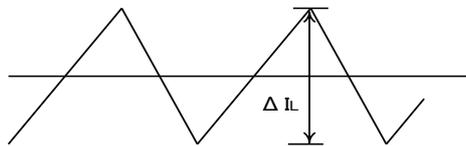

Figure 24. Ripple Current
(1) Output Inductor
A shielded inductor that satisfies the current rating (current value,  $I_{PEAK}$  as shown in Figure 24 Ripple Current) and has a low DCR (direct current resistance component) is recommended. Inductor values greatly affect the output ripple current. Ripple current can be reduced as the coil (L) value becomes larger and the switching frequency becomes higher as shown in the equations below